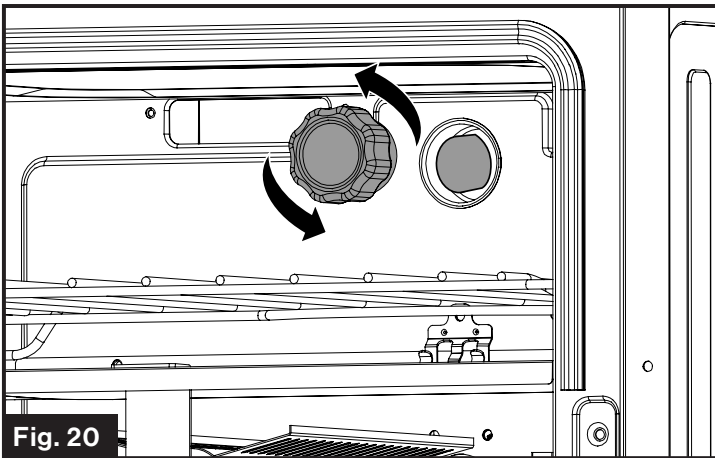

Fig. 20
3. Remove the glass cover of the lamp-holder. (Fig. 20)